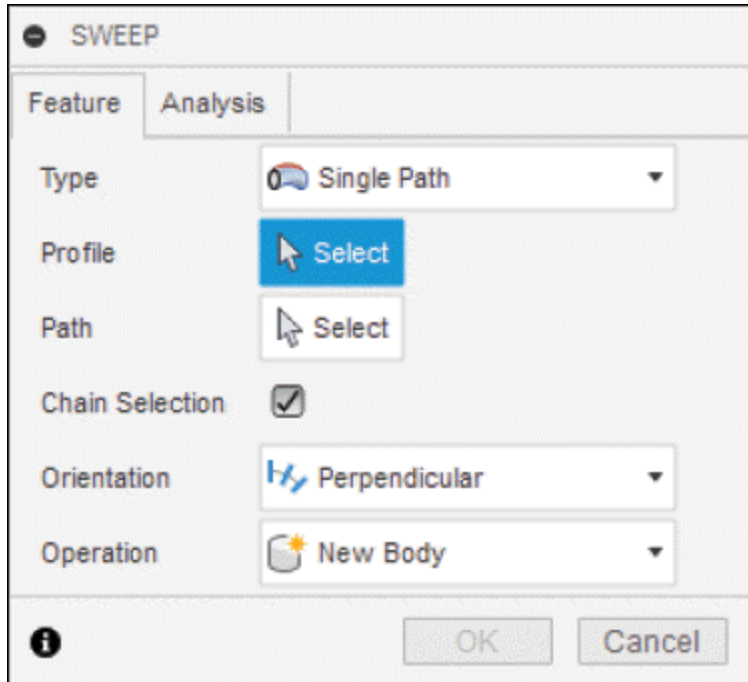

Figure-88. SWEEP dialog box
- Click on the **Sweep** tool from **CREATE** drop-down. The **SWEEP** dialog box will be displayed; refer to Figure-88.